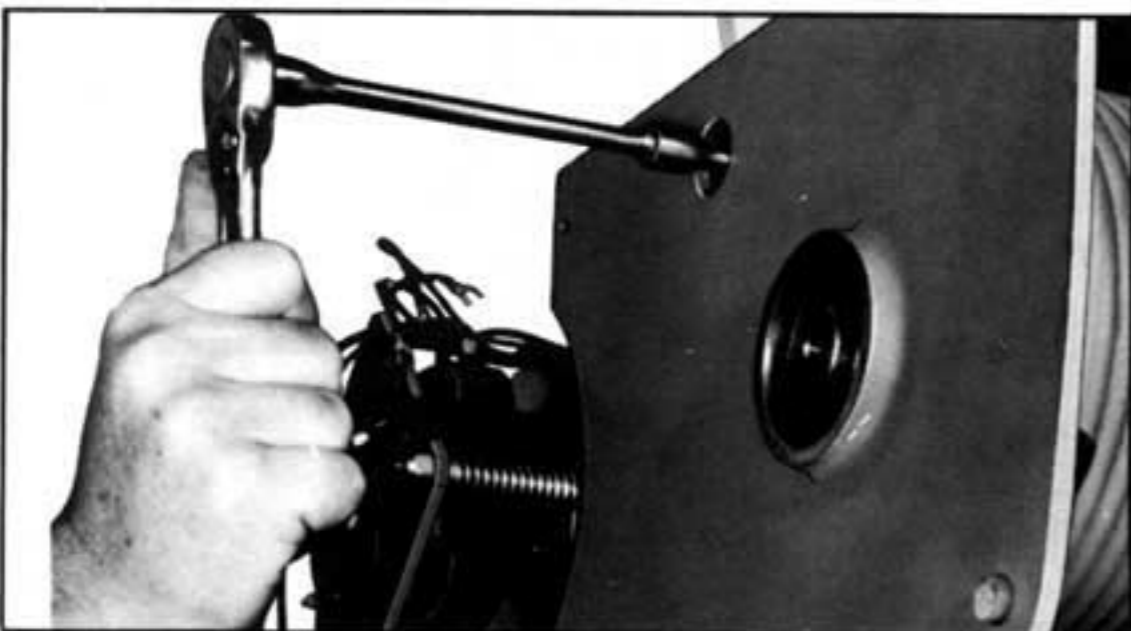

Figure 5-11. Removing Bolt Securing Gearcase to Frame.
b. Remove four hex socket head bolts securing gearcase to cover. Three bolts are accessible from inside frame (Figure 2-2, Section II) and the fourth is accessible from electrical end of frame thru special access hole using a socket hex key wrench with an extension (Figure 5-11).